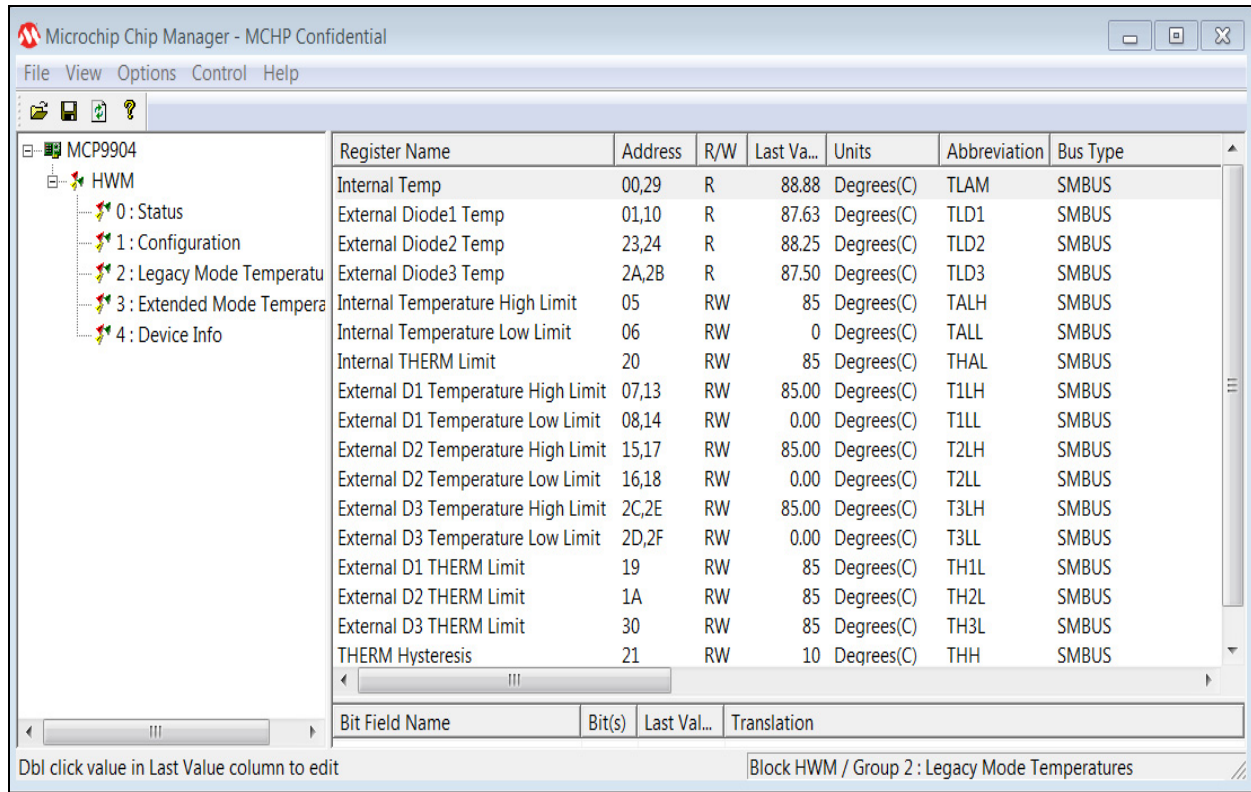

FIGURE 2-11: Chip Manager – Register Groups.
14. From the Chip Manager main menu, ensure that Options > Auto Refresh Registers is checked. In the left panel, click the hardware monitor “HWM” to expand the content, then select any of the register groups, as shown in Figure 2-11. The SMB_ACT LED on the board starts blinking when any of the register groups are selected. The register values are automatically updated every second when the Auto Refresh option is on.